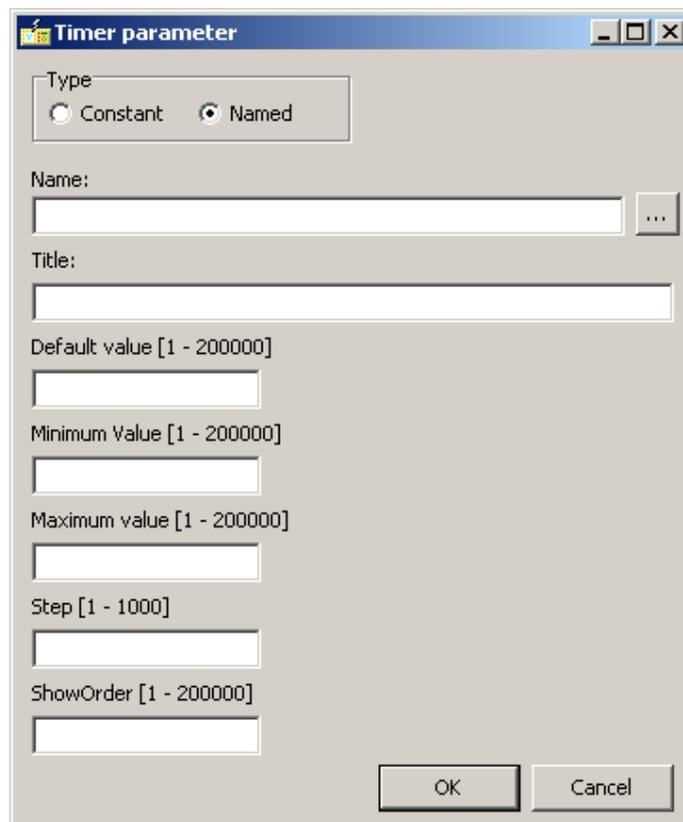
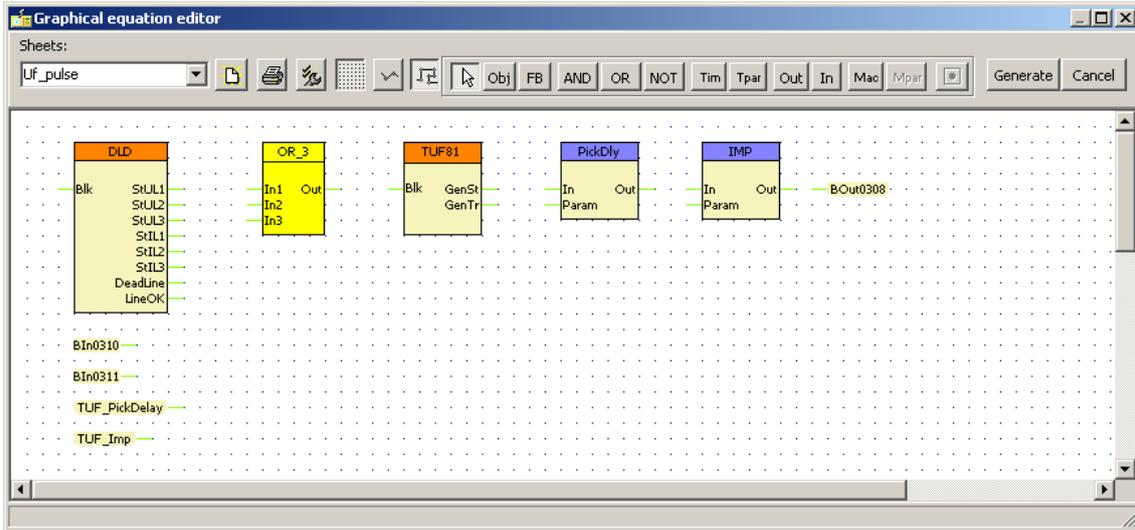

Figure 6-6 Example for timer parameter selection
Figure 6-7 Example for placing the elements on an empty sheet
- The two timers need timer parameters. These are defined using the icon  (timer parameter). The window of Figure 6-6 must be filled in. This figure shows the selection of the “Named” timer parameter. In this case, the delay is defined in a normal parameter setting session. (The *ShowOrder* information indicates the location of this parameter on the parameter list; all other information is self-explanatory.) The parameters to be defined are: *TUF_PickDelay* and *TUF_Imp* (See Figure 6-7.)
- The equation needs two binary inputs and one binary output. Select them using the  icon. The selected inputs are “BIn0310” and “BIn0311” found on the dropdown list, the selected output is “BOut0308” (See Figure 6-7.).
The result of these steps is shown in Figure 6-7. Here the  icon is depressed: the grid is visible on the sheet. The location of the elements can be altered using the drag-and-drop technique.
- 3 Draw the interconnections: As Figure 6-7 shows, the elements placed have green connection points. Draws a line by double-clicking on a green start point, clicking on the required corners and double-clicking on the green end point. A finished line and corners can be rearranged using the drag-and-drop technique. (The line can also be deleted.)
For the most common protection tasks Arcteq prepares “macros”, which can be applied by the user in the graphic equations. The details are hidden from the user, which promotes the readability of the defined equations. Examples were shown in Figure 6-7. The details of macros are described below.